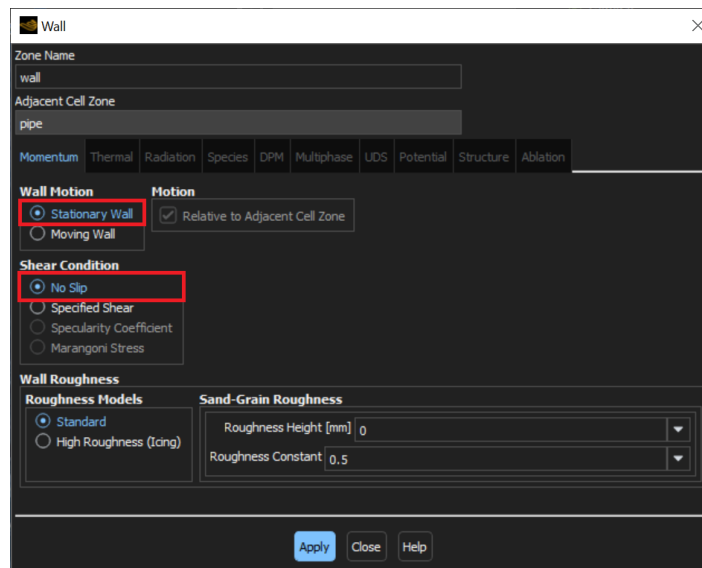

Figure 49: Wall boundary condition in Fluent.
- (c) For the *wall*, select *wall* from the *Zone* selection list, for the *Type* select *wall* and click *Edit*. Verify that, in the *Momentum* tab, it is set as a *No Slip, Stationary Wall*, as depicted in figure 49.